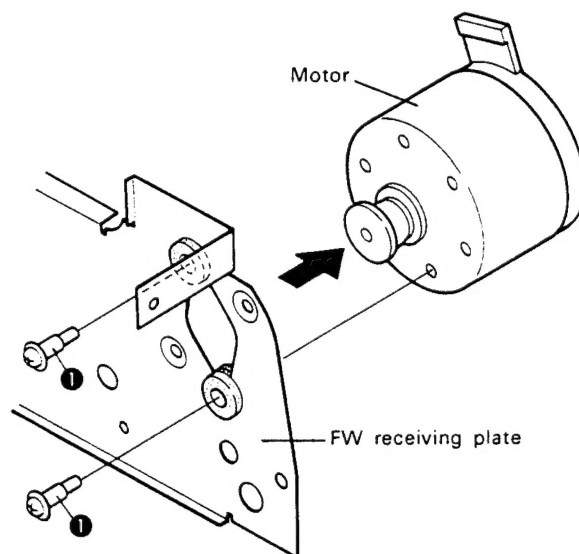

Fig. 13-6 Removal of motor
4. Remove 2 screws ❶ and remove the motor. (See Fig13-6)
Note 2: Perform the tape speed adjustment (See Fig13-6) when the motor is replaced.